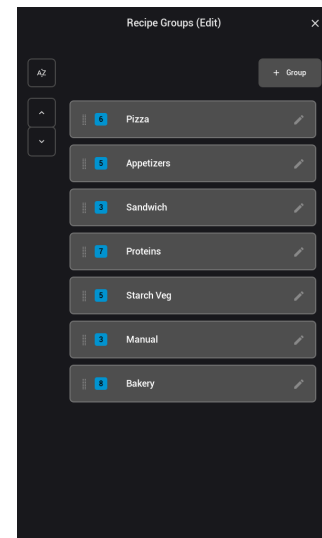

Figure 29: Select Groups to Place Recipe Into
5. Select a recipe (or recipes) to add to the group (Figure 29, below).